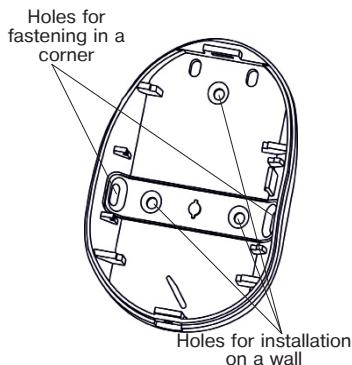

Figure 2 - The base of the Detector
- drill the holes (Figure 2) in the base of the Detector case. They will be used for fastening the Detector;